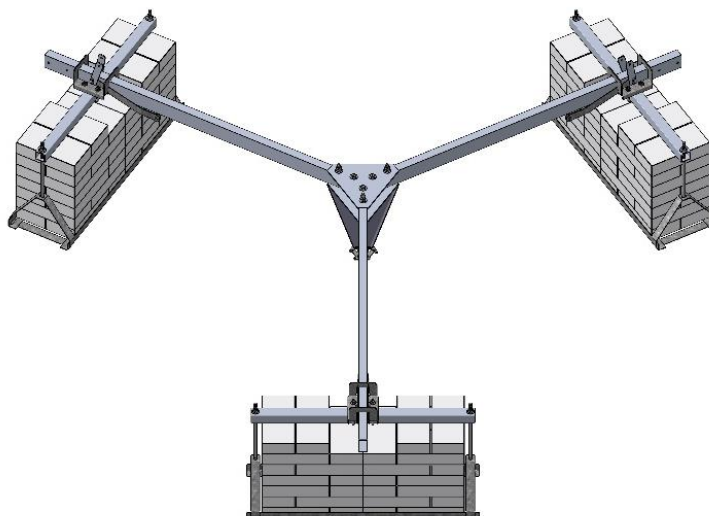

Figure 23 Tower base installation
2. Rest the tower base on top of the ballast frames at the center of each ballast frame as per Figure 23.